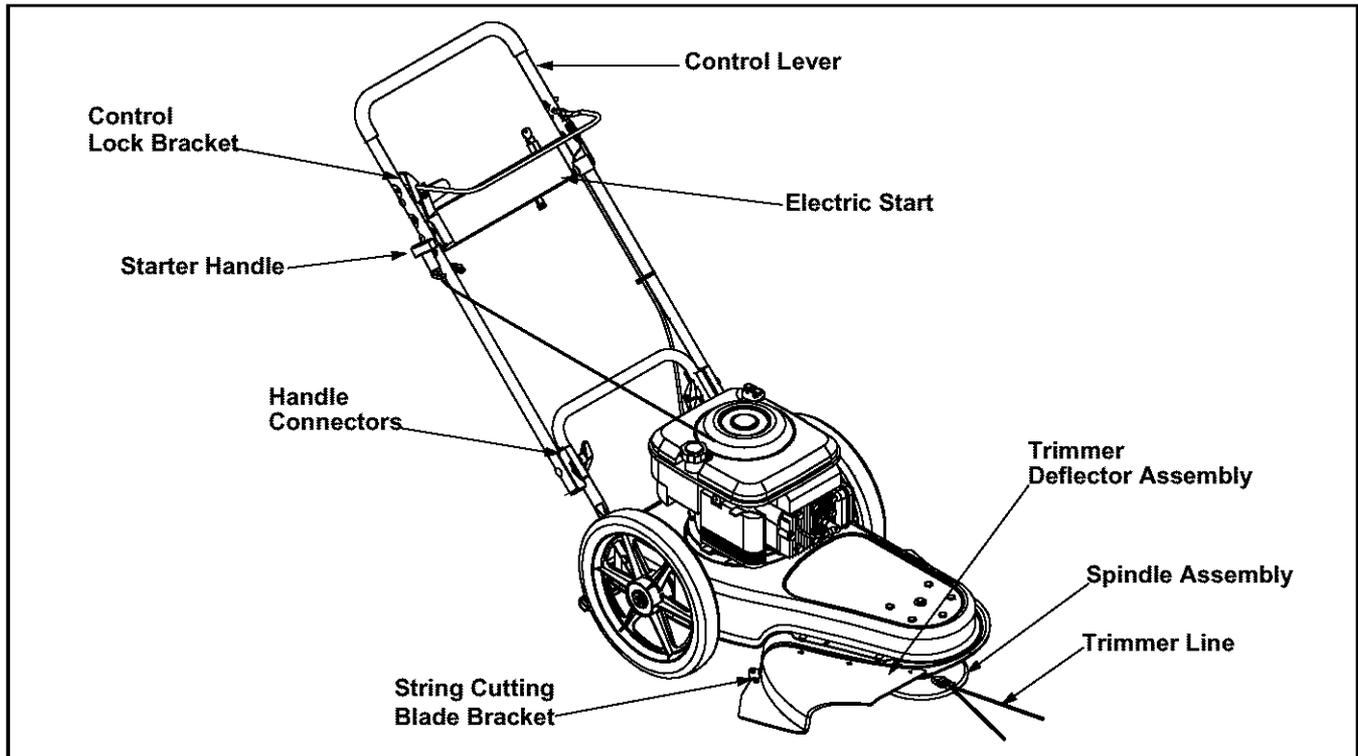

Figure 4
Read this operator's manual and safety rules before operating your string trimmer mower. Compare the illustrations in Figure 4 with your string trimmer mower to familiarize yourself with the location of various controls and adjustments. Save this manual for future reference.
The control lever must be depressed to engage the spindle assembly. See Figure 4.
The control lock bracket is located on the upper right handle. It is used to keep the spindle assembly disengaged while the engine is running. See Figure 4.
The starter handle is attached to the right upper handle. Stand behind unit and pull the starter handle to start engine. See Figure 4.
The handle connectors are on each side between lower and upper handle. They are used to lock the upper handle in a set position. See Figure 4.
The string cutting blade bracket is attached to the trimmer deflector assembly. It is used to cut the trimmer line if it is too long. See Figure 4.
The trimmer deflector assembly is connected to the trimmer base and it is used to prevent yard debris from being thrown. See Figure 4.
- The string trimmer mower is designed with a permanent off-set on the left side, in which the trimmer line is off-set from the trimmer base. This allows the operator to trim along a fence, landscaping, or a house without having to make any adjustments to the spindle assembly. Refer to Figure 4.